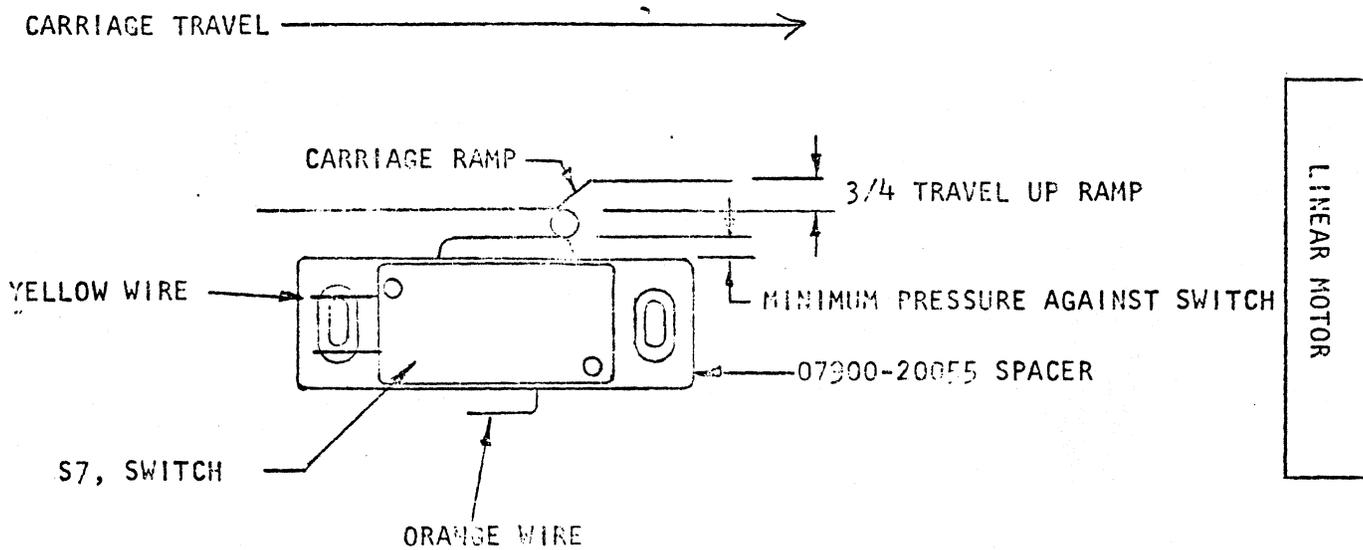

FIGURE 1
8. Adjust the switch to activate approximately 75% up the carriage switch cam slope (Fig.1). Tighten screws. When properly adjusted, switch should never bottom when heads are unloaded.
9. Reconnect wires to switch as shown in Figure 1.